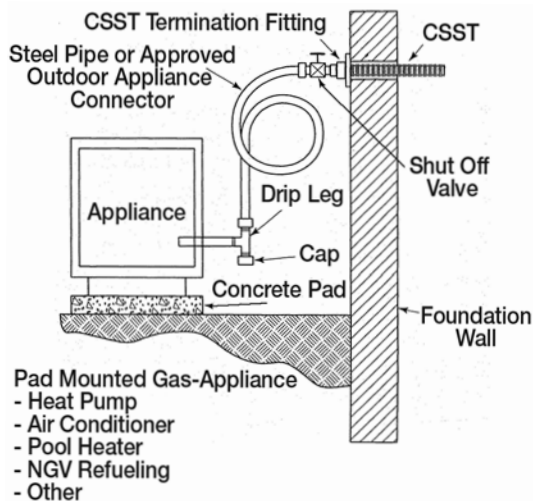

Fig. 4-68
- a) Pad Mounted Equipment (Fig. 4-68) – Moveable gas appliances on concrete pads or blocks, such as heat pumps, air conditioners, pool heaters and NGV refueling systems, shall be connected to the Gastite/FlashShield+ CSST system at a termination fitting using either rigid pipe or an approved outdoor appliance connector.